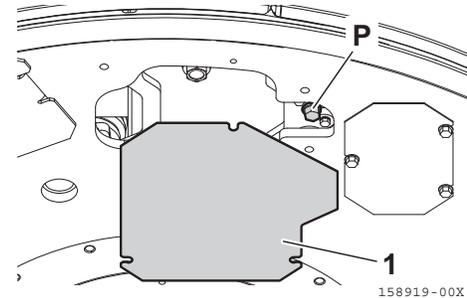

Fig. 8-59
1. Swing the upperstructure so that the drain plug (**Fig. 8-59, P**) will be positioned in the middle of the right and left crawlers.
2. Remove the cover (**Fig. 8-59, 1**) on the lower right side of the upperstructure.
3. Put the container for waste fluid under the drain plug (**Fig. 8-59, P**).
4. Slowly remove the drain plug (**Fig. 8-59, P**) using a tool with a width across flats of 0.47 in. (12 mm) to drain the cooling water.
6. After the cooling water has been drained, reinstall the drain plug (**Fig. 8-59, P**).
13. Reinstall the cover (**Fig. 8-59, 1**) and the storage space for tools. Then close the hoods.